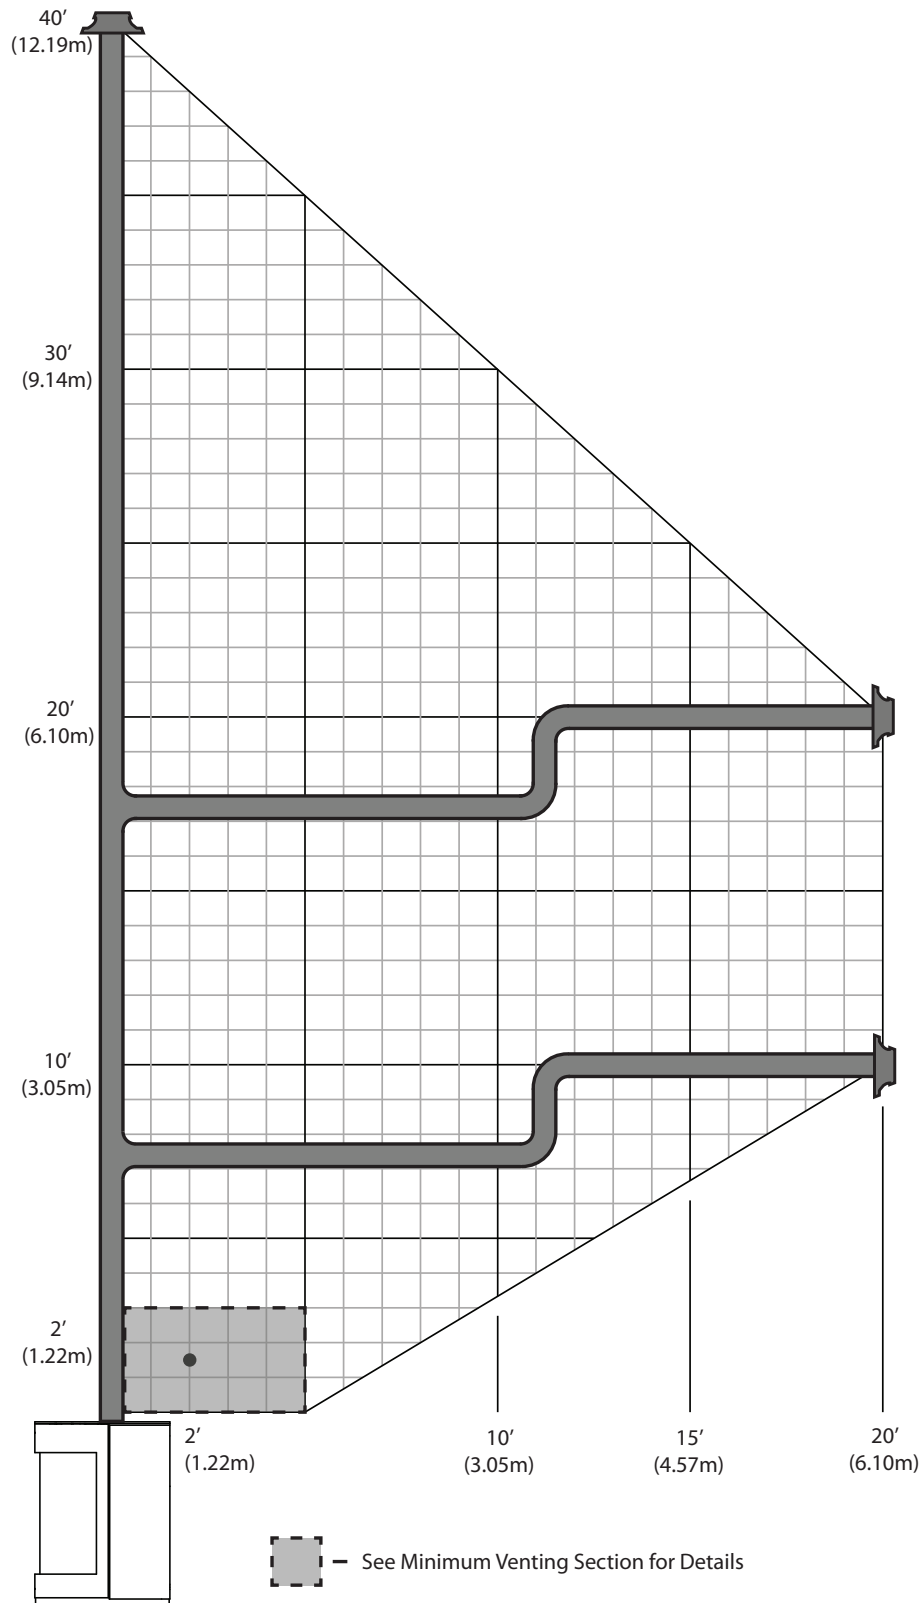

Figure 56: Top Vent Configuration Diagram - LP
The following charts show the range of venting options available for top vent configurations using either vertical or horizontal terminations in conjunction with 0 - 3 90° elbows in the vertical plane. Having the fewest number of elbows is ideal as they restrict air flow. The total length of horizontal vent pipe can not exceed 20ft (6.1m) and the total vertical length can not exceed 40ft (12.2m). Any combination of rise and run can be used as long as it lays within the shaded areas of the following charts. A total of three (3) 90° elbows or six (6) 45° elbows can be used as shown in Figure 55 & Figure 56. In addition to what is shown, if a 90° elbow is used in the horizontal plane, 3 ft (91.4cm) must be subtracted from the allowable horizontal run (for each 45° elbow, 1.5ft (45.7cm) must be subtracted).